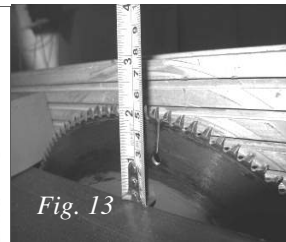

Fig. 13
1. Set the blade height to 2 1/4" (Fig. 13), with the fence 3/4" from the outside of the blade.